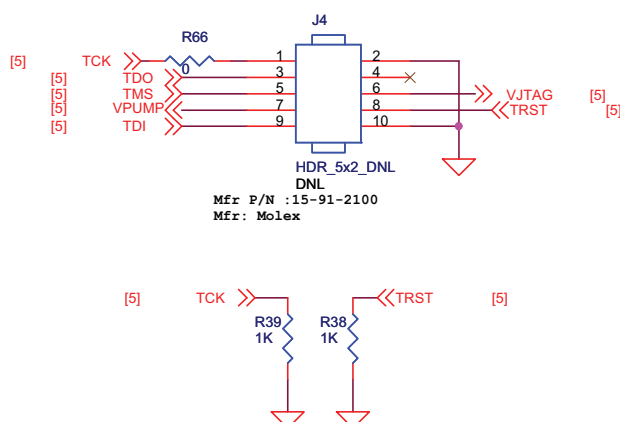

Figure 5-1 • Schematic of JTAG header for Programming Directly with a FlashPro3
5. Alternatively, an option (10-pin FP3 header) is provided to program the FPGA with a FlashPro3 instead (Figure 5-1).